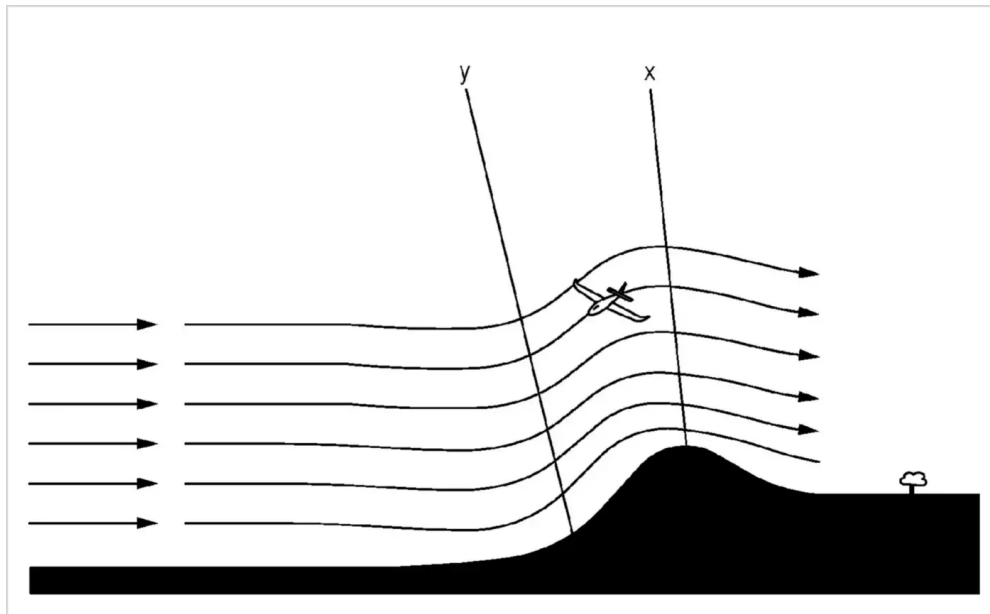

Fig. 6
**[0016]** FIG. 6 is a ridge lift diagram showing ridge lift areas created when wind impacts a ridge from the left and is diverted upward, following the ridge outline.
**[0019]** Ridge lift (shown in FIG. 6) is created by wind, impacting a discontinuity such as a ridge, and being diverted upward, streaming with the curve of the obstruction, creating a vector of air that moving up, i.e., a lift source. In general, the strongest lift can be found just above the highest point of the ridge, and gets weaker in both directions, with the boundaries of lines X and Y. As opposed to thermal lift, ridge lift is composed of air that is not hotter than its surrounding air. Indeed, the air in ridge lift is sometimes even cooler than its surrounding air, e.g., if it is wind arriving from the sea, hitting a shore ridge.
**[0020]** This fact can be used to identify the type of lift and how to locate the maximum lift, by tracking the highest peak of the ridge. When the aerial vehicle crosses lift, it can gauge if it is ridge lift, identify the strongest lift within the lines X and Y in FIG. 6, and maneuver to stay in the strongest lift (with prediction on the ridge line path). This can greatly help the pilot and autopilot. Information derived from geographical data bases can be used to geographically understand the ridge structure, and to use it in predicting where the ridge goes, to find the best lift.